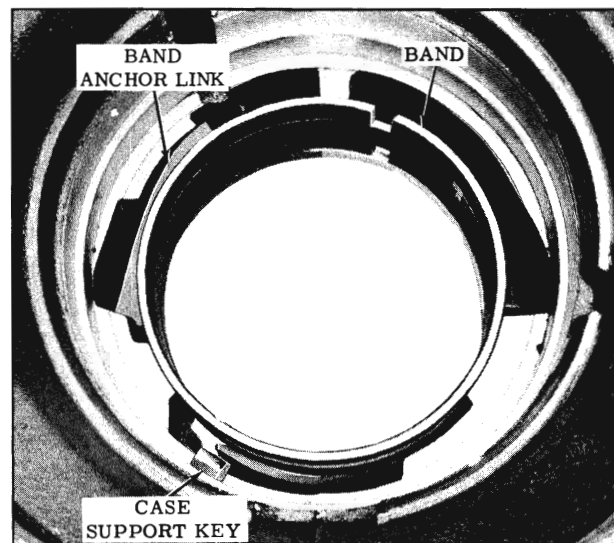

Fig. 3-252 Band and Band Anchor Link
- 56. Remove the case center support assembly. If unit does not remove easily, tap on the back of support with a brass drift. Remove the case center support key from the transmission case. (Fig. 3-252)
- 57. Lift the band and band anchor link out of case. (Fig. 3-252)